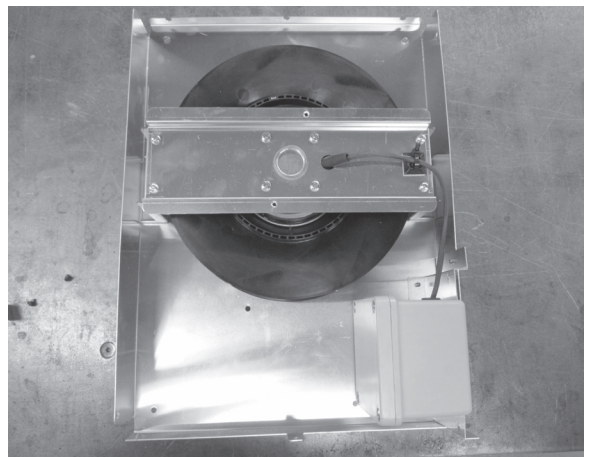

Figure 2.15
16. Install the heat-out into the wall and attach the cap to the wall using the four screws provided. See Figure 2.15.